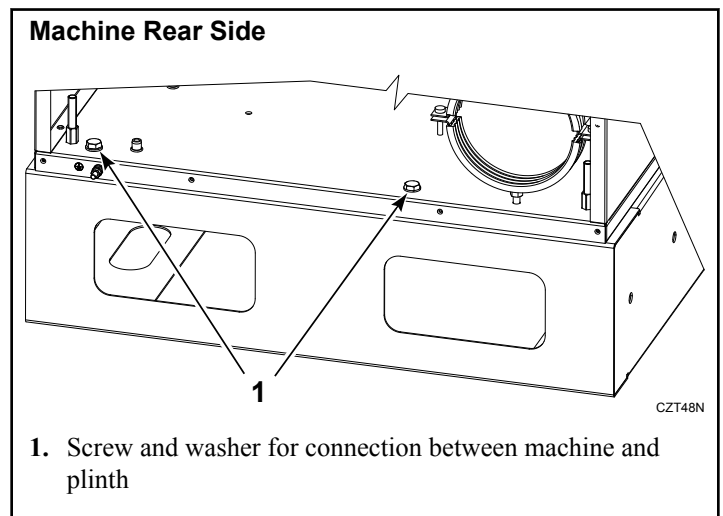

Figure 26
10. Screw the dryer to the base frame with two bolts M10x40, refer to *Figure 26*.